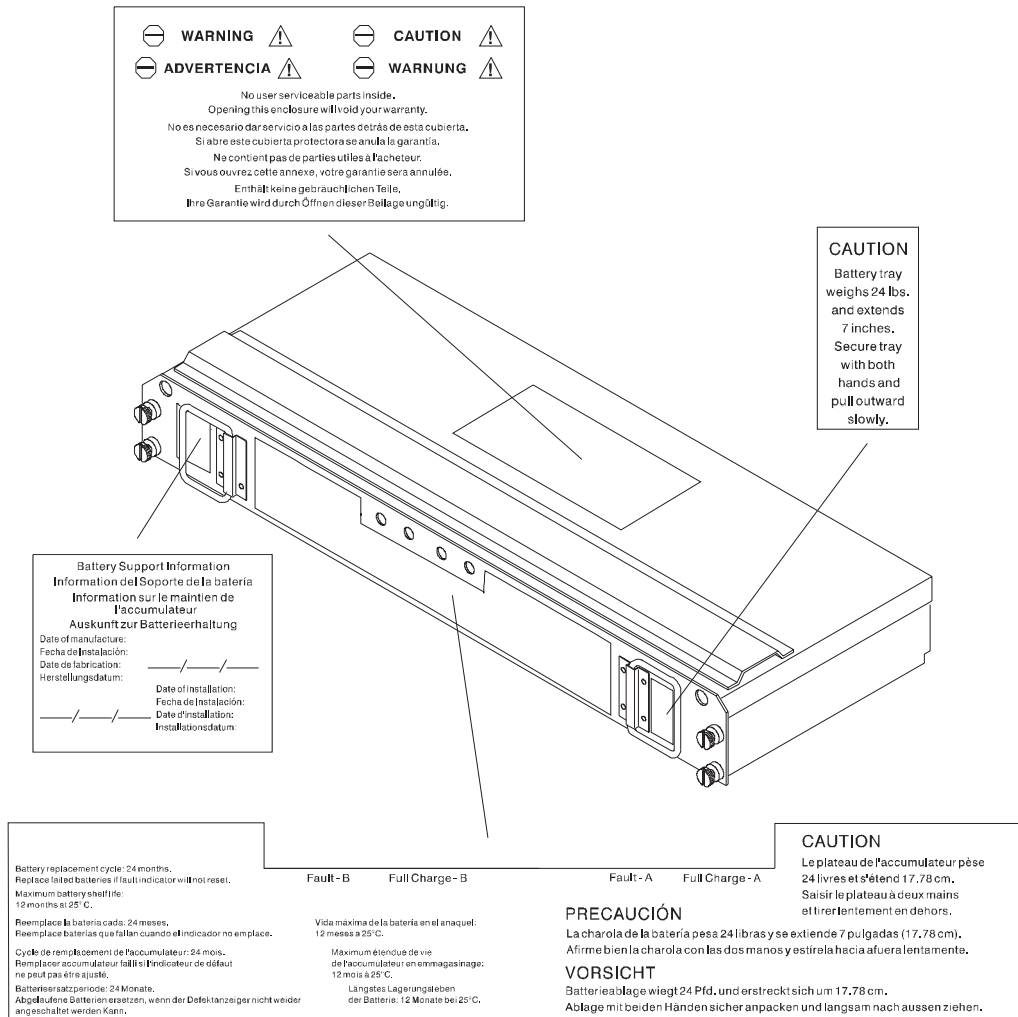

Figure 23. Battery CRU Service Label
2. Check the "Installation Date" on the label (Figure 23 on page 43).